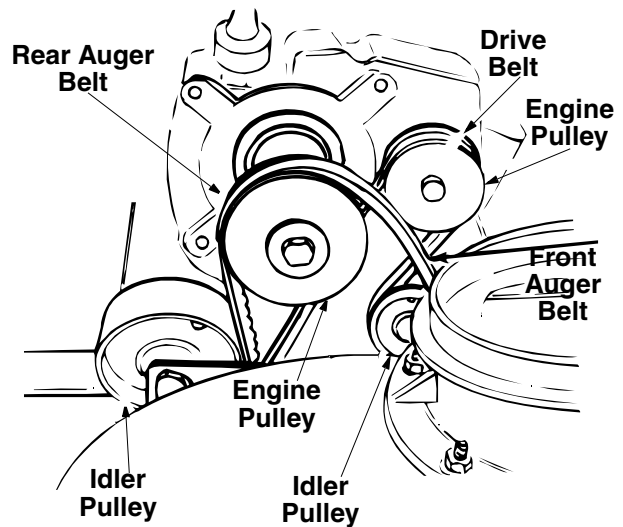

Figure 23
5. Roll the front and rear auger belts off the engine pulley. See Figure 23.
2. Pull idler pulley up, and lift belt off engine pulley and friction wheel disc. See Figure 23.
3. Back out the stop bolt until the support bracket rests on the auger pulley. See Figure 23.
4. Slip belt between friction wheel and friction wheel disc. See Figure 23. Remove and replace belt. Reassemble following the instructions in reverse order.